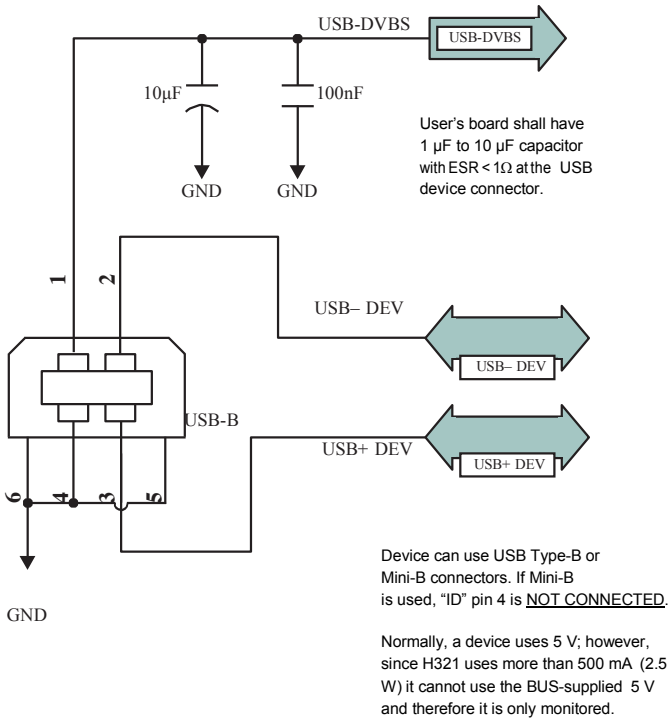

Figure 2-3: H321 USB device design example
- USB Device port (data communication) shown in Figure 2-3 on page 13 serves as a high speed data communications port, such as for a PC